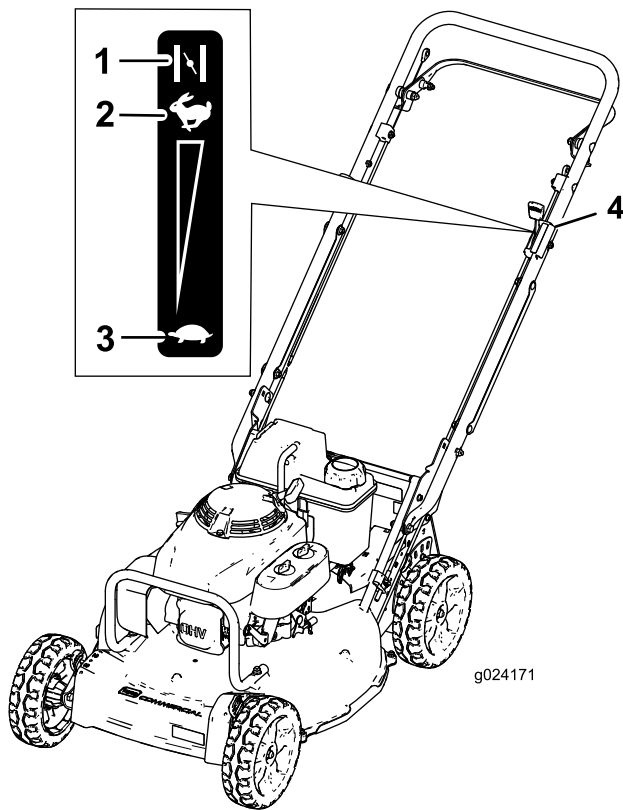

Figure 17
3. Move the throttle-control lever to the CHOKE position (Figure 17).
6. When the engine starts, move the throttle-control lever to the FAST position (Figure 17).